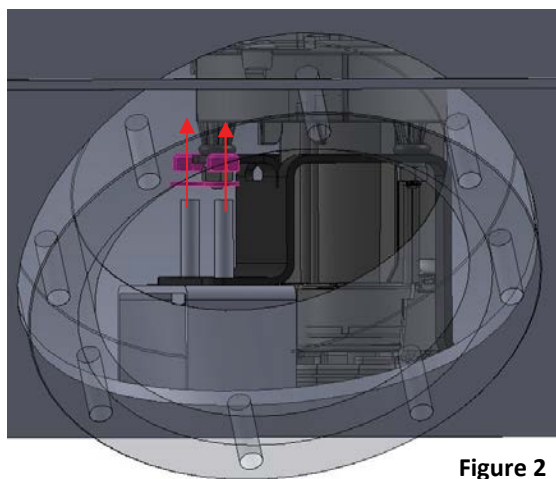

Figure 2
4. Remove fuel pump retaining nuts (Qty: 2) and washers (Qty: 2) (Figure 2)